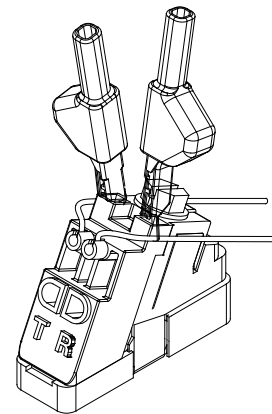

Figure 6
6.2 Testing Subscriber Connections (see Figure 6)